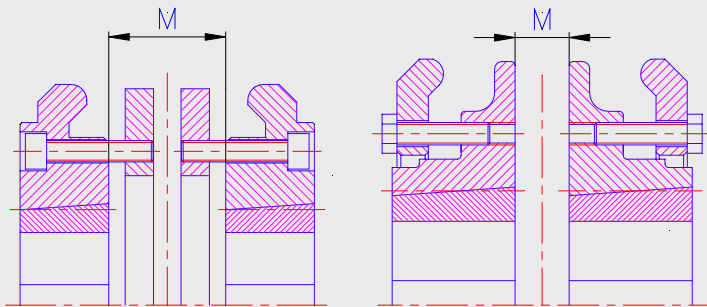

Fig. 3
4. Push the coupling hub with inserted taper bush onto the cleaned shaft with key and position it properly so that the clearance M (see Table 1 and Fig. 3) is maintained. Attach the (outer or inner) clamp ring loosely prior to assembly of the hub.